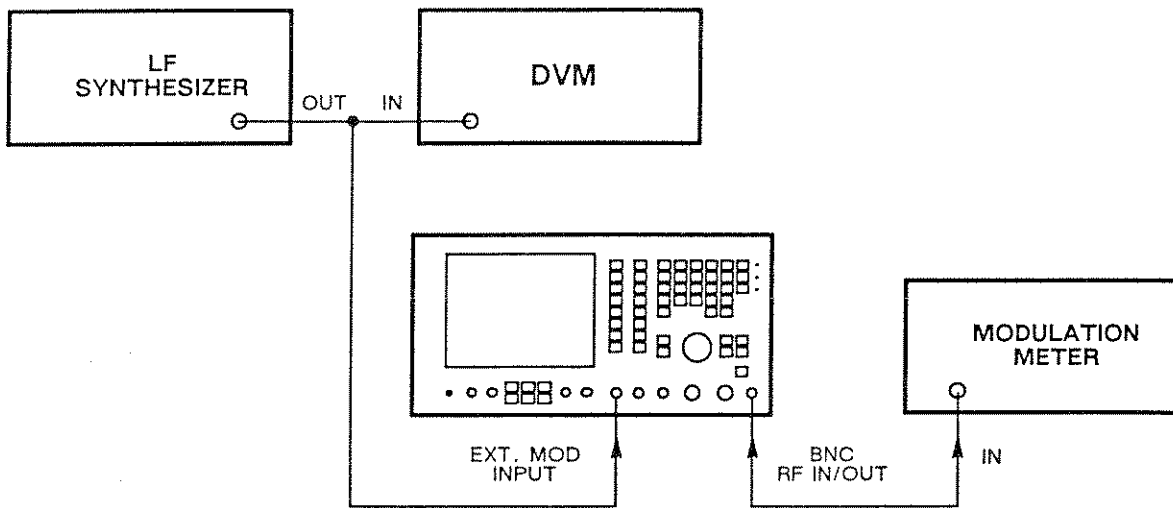

Fig. 6-25 Test equipment connections for RF generator external AM and FM
- (1) Connect the LF synthesizer and the DVM to the EXT MOD INPUT socket. Connect the modulation meter to the RF IN/OUT BNC socket. See Fig. 6-25.
- (2) On the 2955B, set the MODE to RECEIVER TEST, GEN FREQ to 100 MHz, LEVEL to 0 dBm, MOD to AM, MOD FREQ to 1 kHz, MOD LEVEL to 0%, SHAPE to SINE, DIST'N, S/N and SINAD to off and RF IN/OUT socket to BNC.
- (3) Set the synthesized LF generator to give a 1 kHz sinewave output and adjust the level to give a DVM reading of 530 mV RMS (1.5 V p-p).
- (4) Set the modulation meter to AM in a 0.3 to 3.4 kHz bandwidth.
- (5) On the modulation meter, check that the reading is 30% $\pm 10\% \pm 1\%$ AM (i.e. 26 to 34%).
- (6) On the 2955B, reset MOD to FM, LEVEL to 0 kHz.
- (7) Set the synthesized LF generator to give a 1 kHz sinewave output and adjust the level to give a DVM reading of 353 mV RMS (1.0 V p-p).
- (8) Set the modulation meter to FM in a 0.3 to 3.4 kHz bandwidth.
- (9) On the modulation meter, check that the reading is 5 kHz $\pm 10\%$.
- (10) On the 2955B, reset MOD to AM, LEVEL to 0%.
- (11) Repeat (3) to (9) at other external modulating frequencies between 50 Hz and 15 kHz.